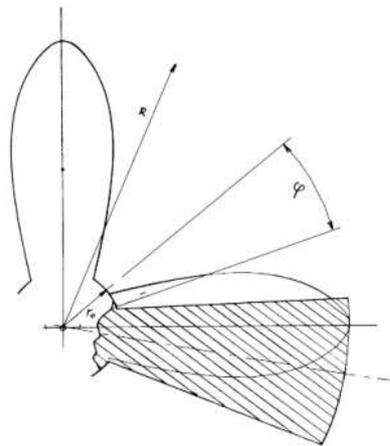
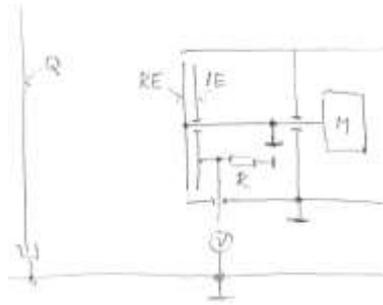

Fig. 1 Shape of the electrodes
Fig. 2 Schematic representation of the field mill voltmeter
These fields are measurable by use of electrostatic voltmeters. One of them is the electrostatic voltmeter known as field mill. It is created from insulated asterisk's shaped electrode, fig. 1 and rotating asterisk shaped grounded electrode. If this voltmeter is in the electrical field, then the opposite electrical charge is induced at the insulated electrode. The charge is drained to the ground over a resistor R, fig. 2. When the insulated electrode is hidden behind rotating grounded electrode, then the field is interrupted. This situation is periodically repeated and we can read out alternating voltage from the resistor. Its amplitude is proportional to the intensity of measured electric field. The waveform of the signal from the voltmeter is given by the shape of both electrodes. If the shape of the electrode is given by equation (1), (the polar coordinate system is used, N is a number of leafs, other parameters are described in figure 1), then the output is sine wave signal. The schematic drawing of the set-up is illustrated in fig. 2.